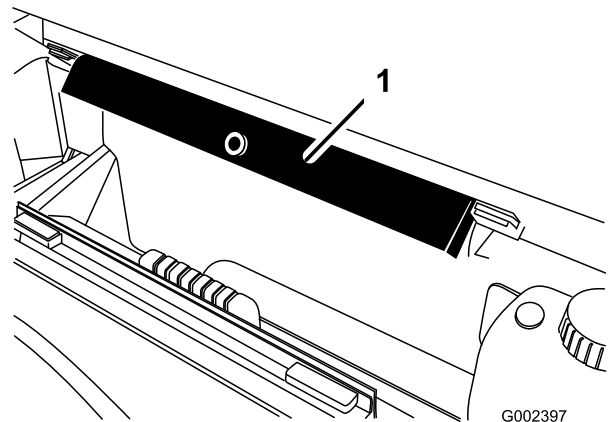

Figure 83
10. Remove the bed support from the storage brackets at back of the ROPS panel (Figure 83).